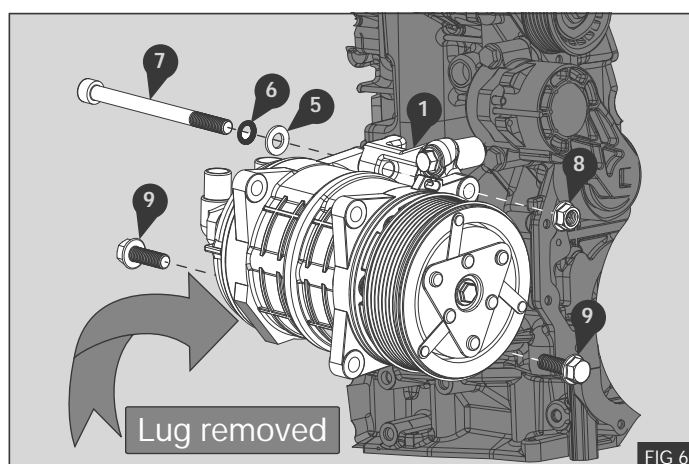

FIG 6
1. Fit the compressor to the mount bracket assembly (1) fixing it with the two supplied bolts M10 x 30 (9) and cap screw M10 x 130 (7) with Schnorr safety washer (6), flat washer (5) and nut (8) - Fig 6
2. Torque the two M10 x 30 bolts (9) to 50 Nm / 37 Lb ft using a calibrated torque wrench
3. Torque the M10 x 130 cap screw (7) to 73Nm / 55Lb ft using a calibrated torque wrench